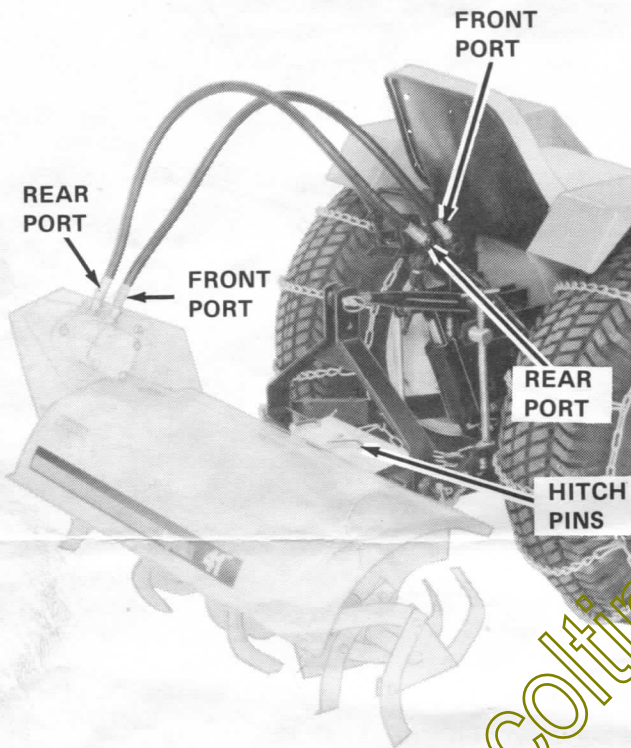

FIGURE 9 Hose Connections - Model K74 Shown
3. See Figure 9. Install the hoses from: